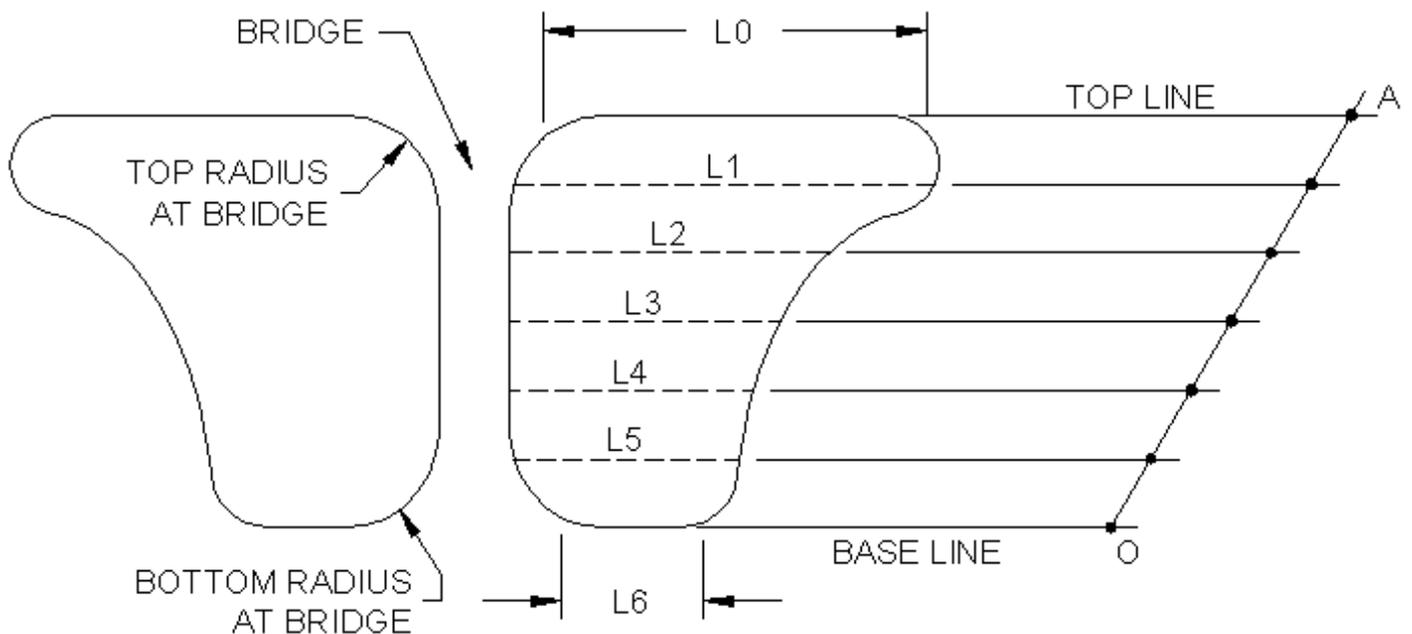

Figure 6
A port should be specified as **profiled** only when the port shape is **not** rectangular, whether with or without radiused corners. In such case, instead of supplying a single port arc width and the corner radii, more information is required. This is the arc width of the port at various positions between the port starting to open, and becoming fully open. Such specification gives **MOTA** very accurate information about the relationship between the area of the port uncovered and the distance of the piston from top dead centre. You should use this option to describe any of your port shapes which deviate significantly from a rectangular shape with or without radiused corners. A construction for dividing the area of an irregular shaped port into a number of equispaced intervals is illustrated in Figure 6 and is described in section 4.7.3
A construction which divides one of the ports of an irregular shaped bridged port pair into 6 equispaced intervals, providing 7 ordinates, is shown in Figure 6. To make the construction accurate and easy, the length in millimetres of the chosen line AB should be an integer multiple of 6. A pair of compasses, a pair of dividers, a rule, a set square and a fine pen or sharp pencil are minimum requirements for completing the construction. Generally a suitable port outline can be obtained from a "rubbing" of the cylinder wall.
The construction illustrated in Figure 6 is completed as follows:
**MOTA** treats each division between adjacent pairs of ordinates as a trapezium and with this in mind it will in some cases be appropriate to adjust the lengths of the first and/or last ordinates in order to provide a realistic port area. In Figure 6 notice that the values of *L0* and *L6* have been adjusted in an attempt to provide realistic representations of the areas of the two extreme sections of the construction.